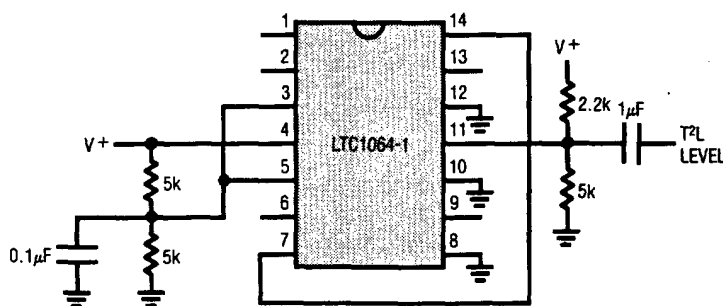

Figure 3. Level Shifting the Input T²L Clock for Single Supply Operation, V⁺ > 6V
2.2V and 3V respectively. The logic threshold levels vary ±100mV over the full military temperature range. The recommended duty cycle of the input clock is 50% although for clock frequencies below 500kHz the clock “on” time can be as low as 200ns. The maximum clock frequency for ±5V supplies is 4MHz. For ±7V supplies and above, the maximum clock frequency is 5MHz. Do not allow the clock levels to exceed the power supplies. For clock level shifting, see Figure 3.